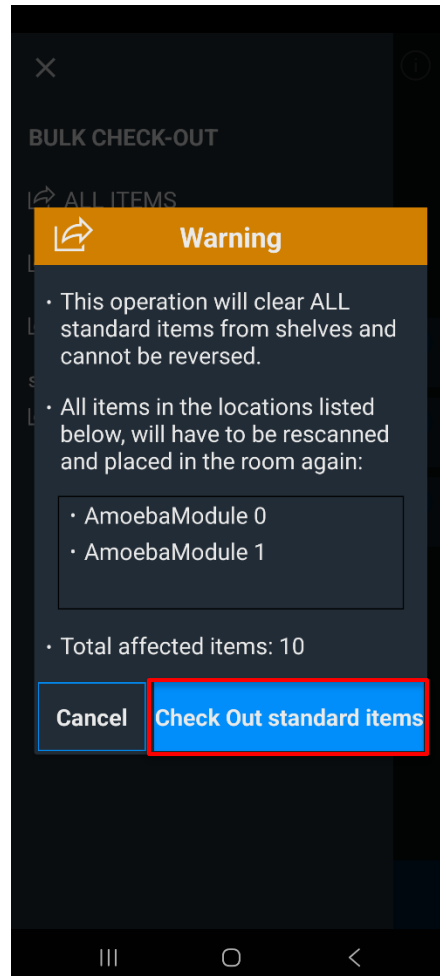

Figure 63: Standard items warning
A warning dialog opens informing you that once you proceed, the action cannot be reversed. The locations listed are site specific. In the example below, all standard items are located on shelves L1 and L2. See Figure 63.
7. To remove all packages from the shelves, tap **Check Out standard items**. See Figure 63.